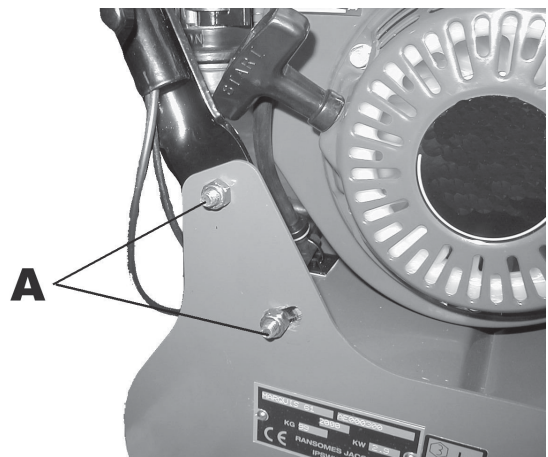

Fig. 8.11b
1. Slacken the clamp bolts (A Fig. 8.11b) to adjust the angle on the handlebars